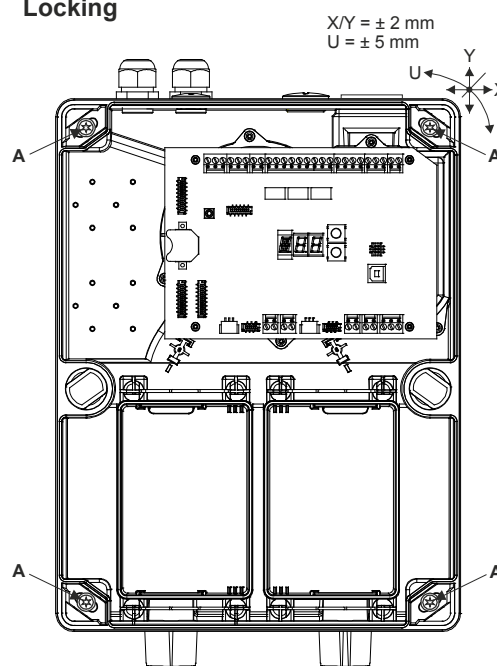

Fig. 2 Opening, closing and fastening the detector housing
- To use the **rotary snap locks**, **press firmly** with the screwdriver toward the housing base and then **turn 90°**. The position of the lock slit shows the current state (see **Fig. 2**):